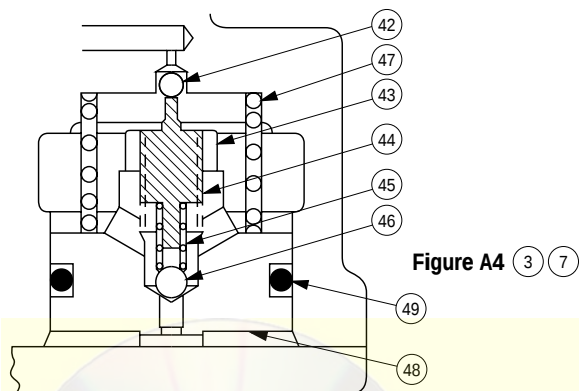

Figure A4 (3) (7)
Refer to Figure A4. Lightly bottom the stem (44) on the ball (46). Then, back out the stem 3-1/2 turns. Tighten nut (43). The resulting pressure setting should be approximately 19 Bar (280 psi).